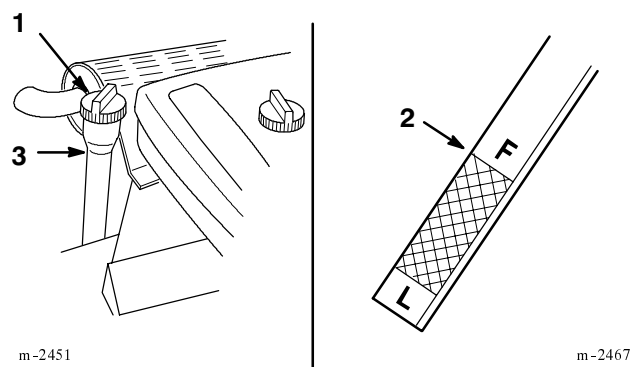

Figure 18
3. Clean around the oil dipstick (Fig. 18) so dirt cannot fall into the filler hole and damage the engine.
4. Unscrew the oil dipstick, pull out and wipe the metal end clean (Fig. 18).
5. Slide the oil dipstick fully into the filler tube and thread on securely (Fig. 18). Unscrew and pull dipstick out and look at the metal end. If oil level is low, slowly pour only enough oil into the filler tube to raise the level to the “FULL” mark.
6. Slowly pour approximately 80% of the specified amount of oil into the filler tube (Fig. 18). Now check the oil level; refer to Checking Oil Level, page 21. Slowly add additional oil to bring to “FULL” mark on dipstick.